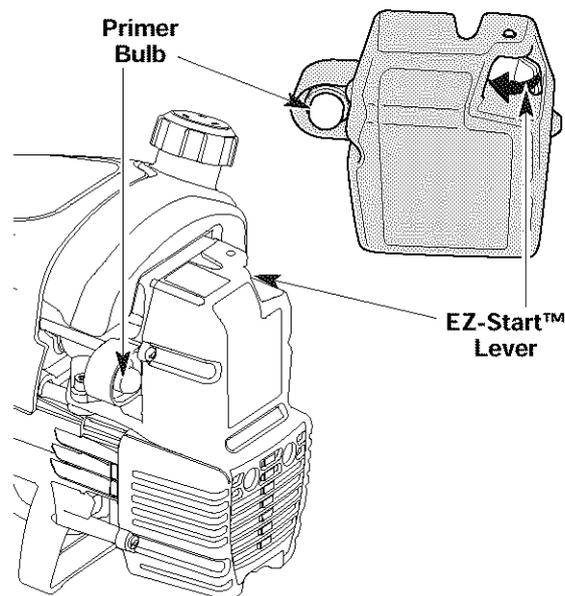

Fig. 17
**NOTE:** There is no need to turn the unit on. The On/Off Stop Control is in the ON (I) position at all times.
2. Fully press and release the primer bulb 10 times, slowly. Some amount of **fuel should be visible in the primer bulb** and fuel lines (Fig. 17). If you can't see fuel in the bulb, press and release the bulb as many times as it takes before you can see fuel in it.
3. **Push the EZ-Start™ Lever to the left** until it clicks and locks into place (Fig. 17).